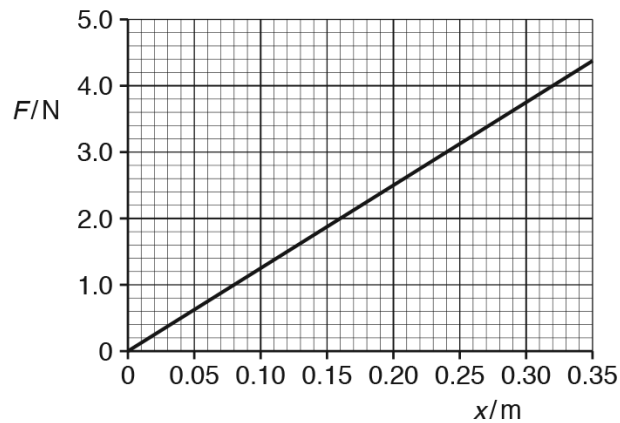

Fig. 3.1
The variation with extension x of the force F acting on a spring is shown in Fig. 3.1.
- (i) use Fig. 3.1 to show that the increase in elastic potential energy of the spring is 0.64 J